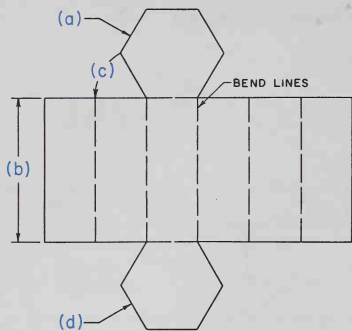

Fig. 11-7. Layout for a prismatic container.
1. Draw the hexagon (or octagon) near one edge of your layout sheet, Fig. 11-7 (a). (See pages 61 and 62 on the construction of polygons).
2. Draw lines representing the height of the prism, Fig. 11-7 (b).
3. Lay off the distances for the sides with dividers, Fig. 11-7 (c).
4. Draw the other base, Fig. 11-7 (d).